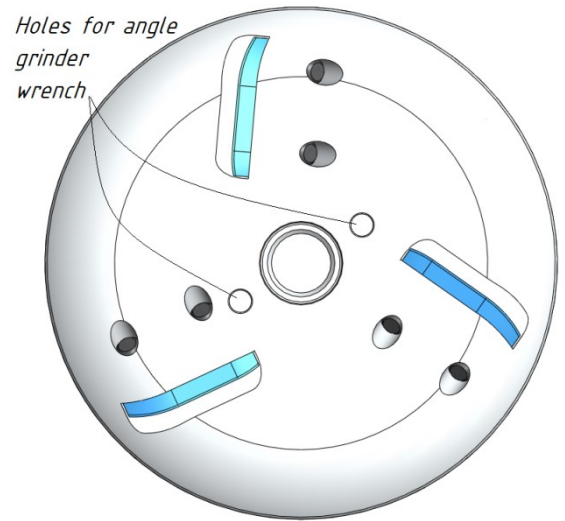

Fig 5. Special holes for angle grinder wrench.
3. Tool thread connection 5/8"-11 must be tightened until there is no gap between tool body and disc flange with a special angle grinder's wrench using special holes for that in tool body (figure 5). It is important to use gloves, because there is a risk to injure operator's hand against the cutting blades, when the wrench should be accidentally slip away. Please be very careful!